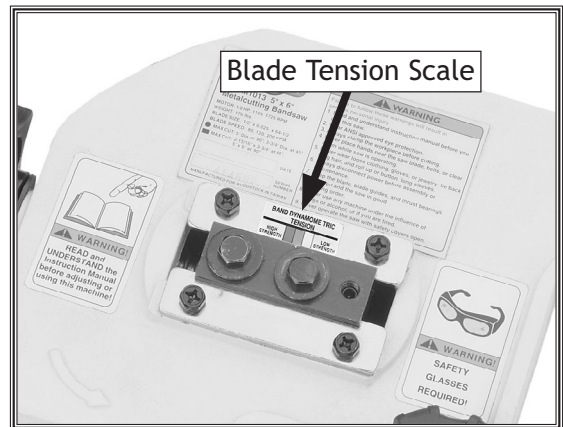

Figure 20. Typical blade tension scale.
4. Turn the blade tension knob until the blade is snug, and the blade tension scale indicates "medium" (see **Figure 20**).